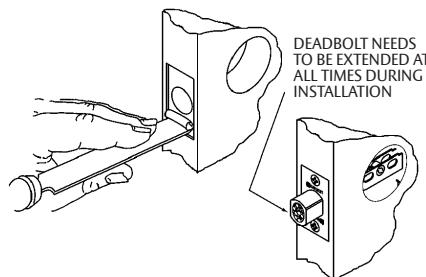

Figure 3
- Insert deadbolt with bolt extended and fasten with two deadbolt screws (#8-32 X 3/4"). (See Figure 3).